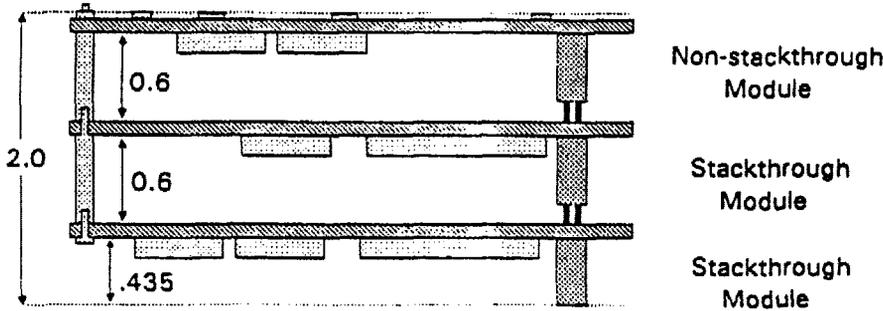

Figure 2. Standalone Module Stacks
Standalone module stacks. As shown in Figure 2, PC/104 modules are self-stacking. In this approach, the modules are used like ultra-compact bus boards, but without needing backplanes or card cages. Stacked modules are spaced 0.6 inches apart. (The three-module stack shown in Figure 2 measures just 3.6 by 3.8 by 2 inches.) Companies using PC/104 module stacks within their products frequently create one or more of their own application-specific PC/104 modules.
- h. Modified Figure 2, Table 1, and some text under Section 2.2 to add routing recommendations for the PCI interrupt lines INTA - INTD.